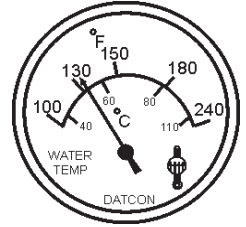

Figure 50. Coolant Temperature Gauge
10. The **coolant temperature gauge** (Figure 50) will indicate the coolant temperature. Under normal operating conditions the coolant temperature should be between 165 and 203 degrees Fahrenheit (**Green Zone**).